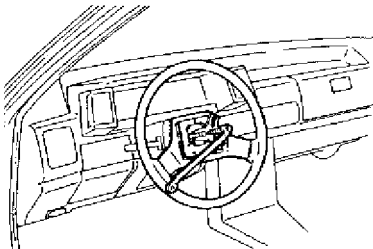

Fig. 1: Steering Wheel Removal
2. Remove the retaining nut for the steering wheel and remove the steering wheel with a steering wheel puller. See Fig. 1.